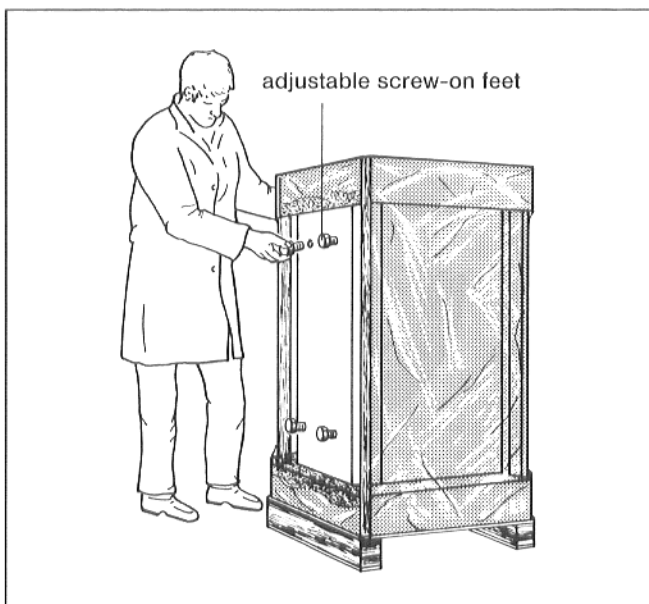

Fig. 17
- Screw in 4 adjustable screw-on feet (packed with the boiler as an accessory) into the base of the storage tank to 5/8 – 1 in. (Fig. 17).